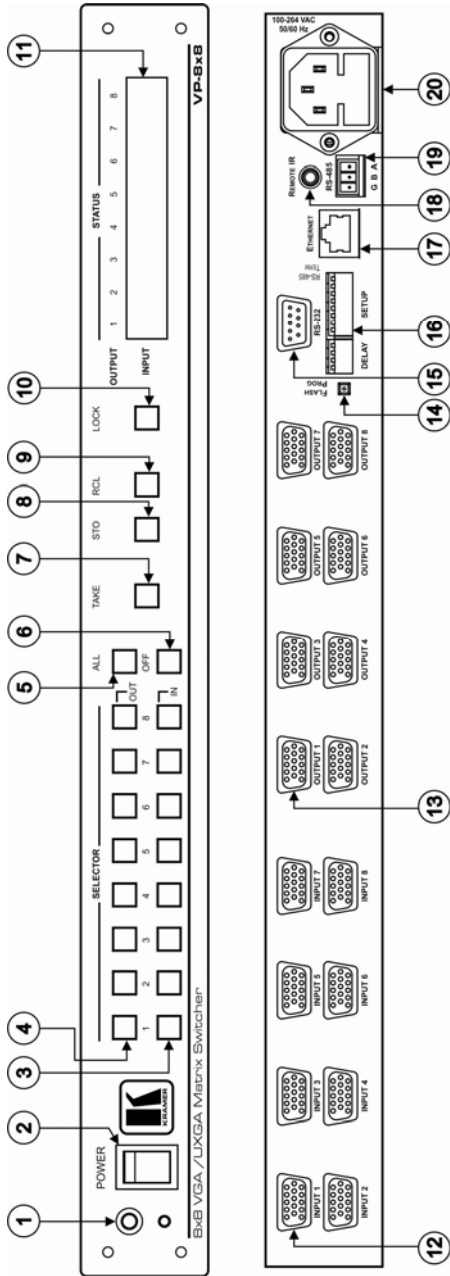

Figure 1: VP-8x8 8x8 VGA/UXGA Matrix Switcher
Switch OFF the power on each device before connecting it to your VP-8x8. After connecting your VP-8x8, switch on its power and then switch on the power on each device. DO NOT push in the rear panel Flash Program "Program" button (item 14 in Figure 1) and DO NOT push in the underside Flash Program "Reset" button. These are only used for upgrading to the latest Kramer firmware.